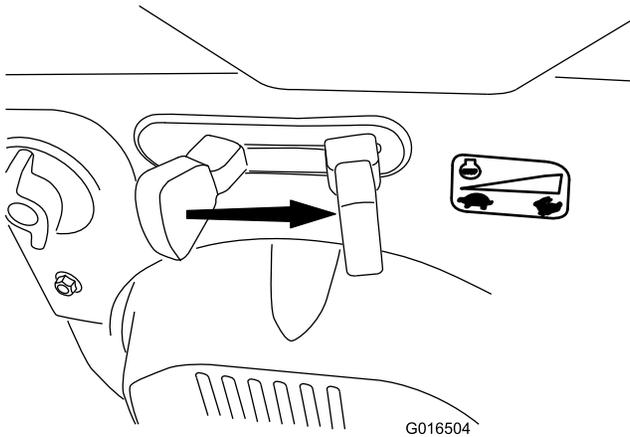

Figure 31
6. Move the throttle to the FAST position (Figure 31).